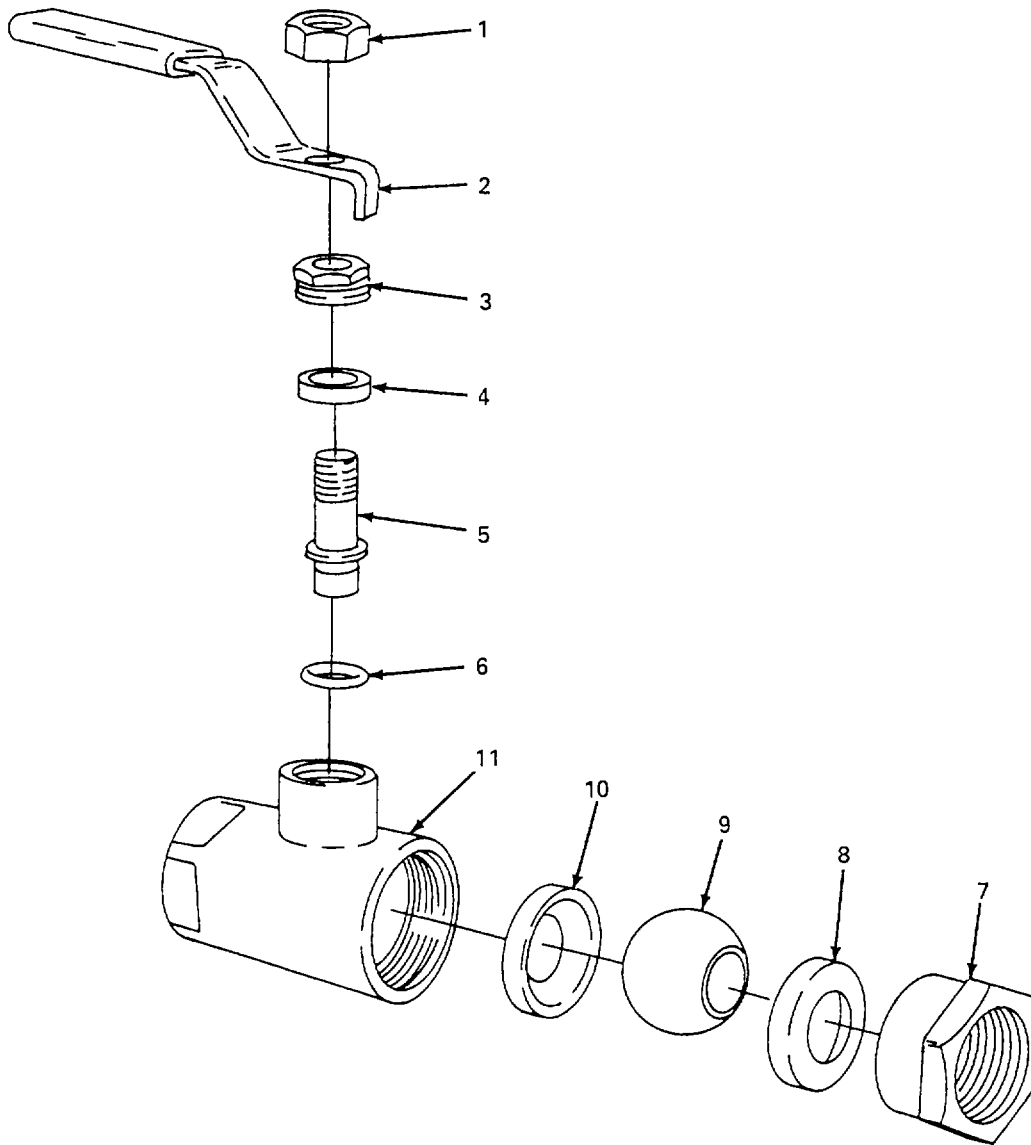

Figure 5-67. Ball Valve 1 Inch, Repair.
- (4) Install two valves (4), fitting (3), tee (2), and two fittings (1).
- (5) Pressurize system and check for leaks.
b. Repair. (figure 5-67)**NOTE**